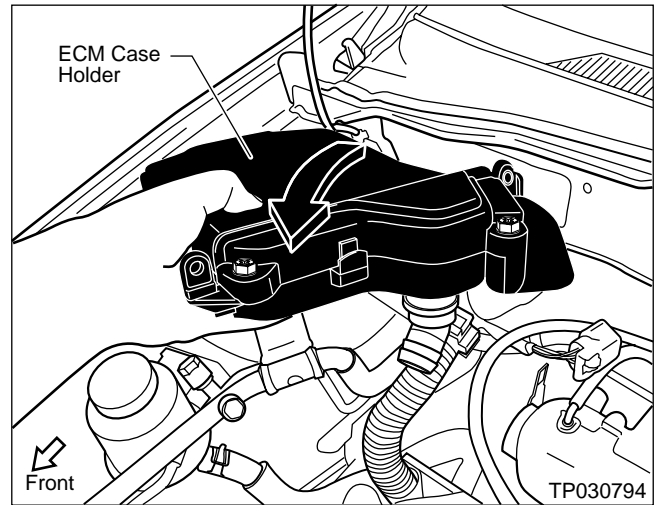

Figure 7
- Carefully pull the ECM Case Holder out of the engine room wall and set it on top of the passenger side Strut Tower (see Figure 7).